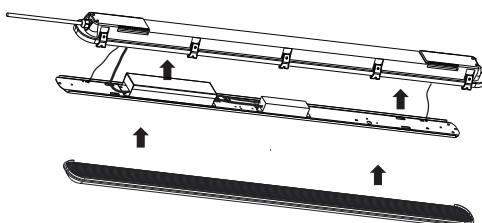

Figure 7
7. Reattach the gear tray to the fixture housing with the fixture retaining clips. Reinstall the lens by closing the lens latches. Ensure the latches are secured around the entire fixture to prevent intrusion of water and dust. (Figure 7)